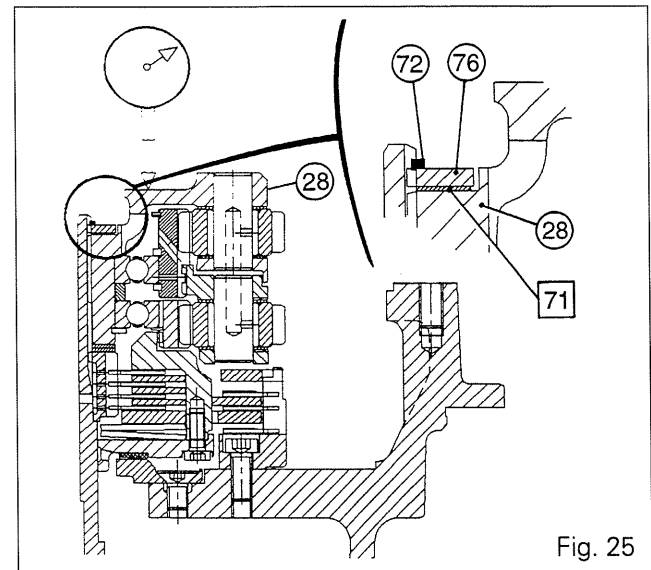

Fig. 25
73. Fit the secondary sungear (61) onto the rear clutch housing (59) and the planetary carrier assembly onto the secondary shaft (53). Install the spring washer (76) and the retaining ring (72).
74. Position the tip of a dial gauge as shown on Fig. 25 and check the play while moving the planetary carrier assembly vertically.
77. Install the springs (65). Position the pressure plate (38), making sure that the notches line up with the lugs on the brake housing /42\.
79. Refit sungear (61) and the planetary carrier assembly and compress them using tool 3376920 M1.
80. Place the shims [71] selected during operation 76 against the primary planetary carrier (28). Fit the spring washer (76) and the retaining ring (72).